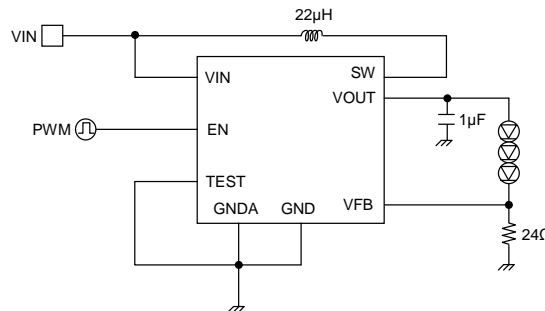

Figure 17. The brightness adjustment example of EN terminal by PWM ($f_{\text{PWM}} = 100\text{Hz} \sim 300\text{Hz}$)
1) PWM brightness adjustment is made by giving PWM signal to EN as shown in Figure 17.